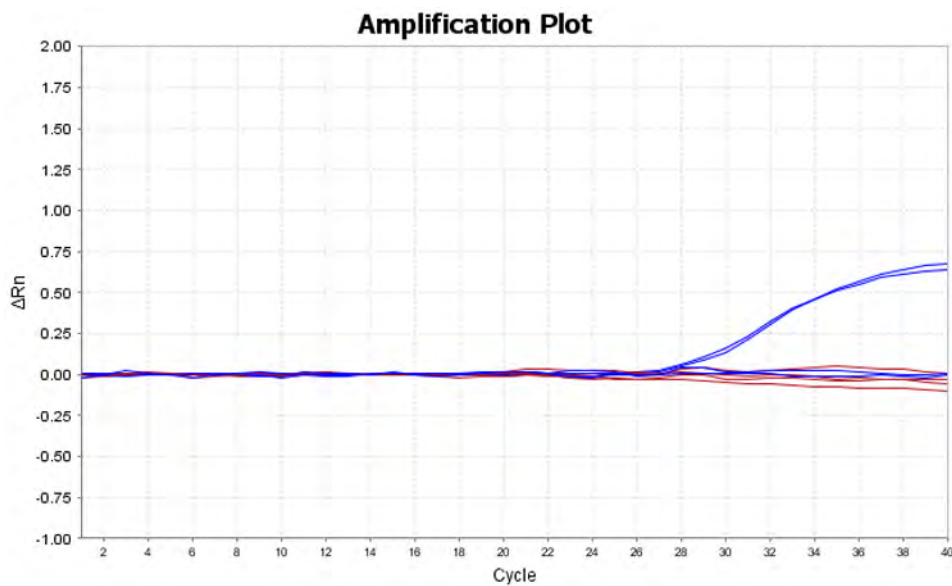

Figure 16 Example Amplification Plot for negative control and blocked IPC
- View the amplification plots for the negative controls (see Figure 16 and “Optimize display of negative controls in the Amplification Plot” on page 29).